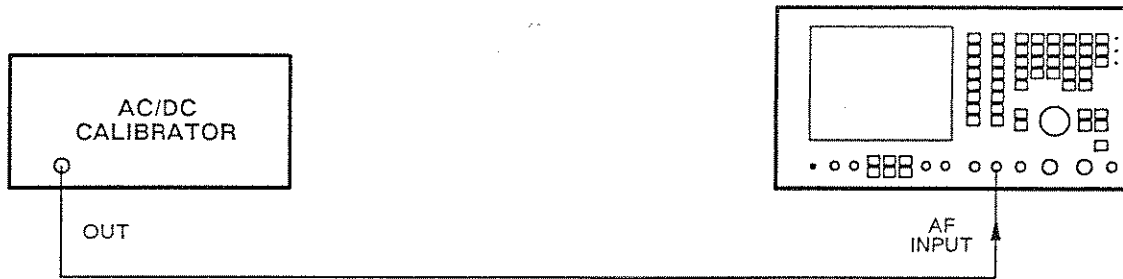

Fig. 6-7 Test equipment connections for voltmeter level at DC and 1 kHz
- (1) Connect the AC/DC calibrator to the AF INPUT socket. See Fig. 6-7.
- (2) On the 2955B, set the MODE to AUDIO TEST, AC DC to DC, FILTER to 50 kHz LOW PASS and DIST'N to off.
- (3) Set the calibrator to give 1.000 V DC.
- (4) Check that the AF voltmeter reading is the same as the calibrator voltage $\pm 3\%$ ± 3 mV ± 1 digit.
- (5) Repeat setting the calibrator to other DC levels up to 100 V and repeat (4).
- (6) Check the operation of the bar chart and oscilloscope.
- (7) On the 2955B, set AC DC to AC.